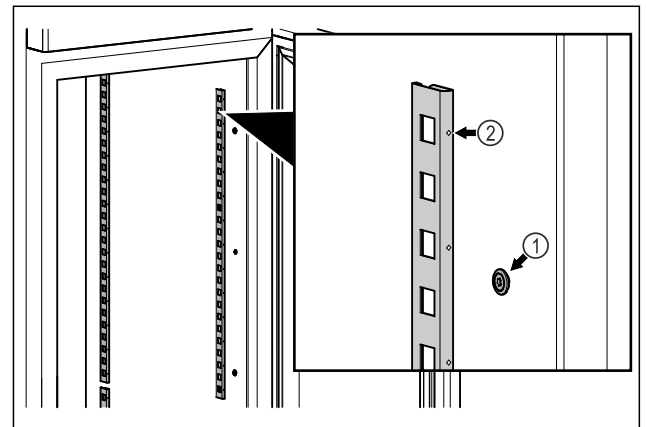

Fig. 85 Example illustration
- Hook the snap strips into the suspension Fig. 85 (1). Mark Fig. 85 (2) must point forward.